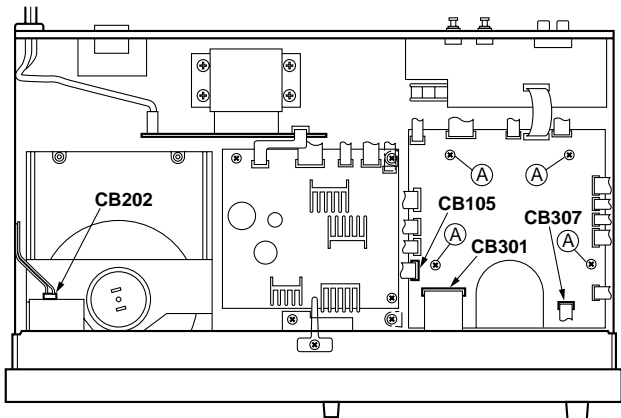

Fig. 2
- b. Disconnect 3 connectors (CB105, CB301, CB307 in Fig. 2) from the MAIN PCB and a connector (CB202 in Fig. 2) from the OPE PCB (6).
- b. Remove 4 screws (A) fixing the Main PCB. (Fig. 2)